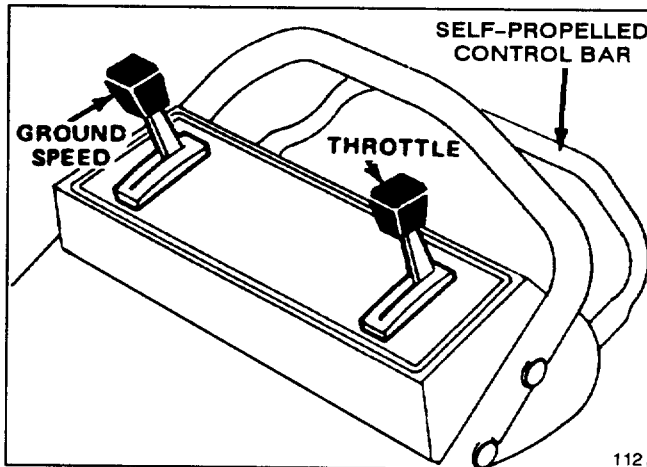
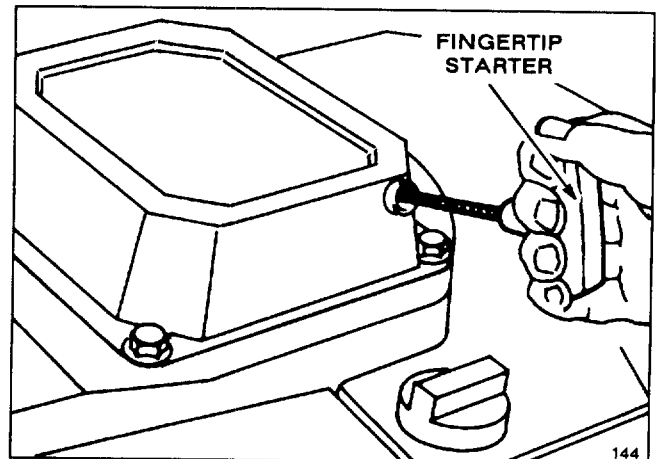

Figure 4
Figure 6
1. CONTROLS—Throttle, ground speed control, and blade/self-propelled control bar are on upper handle (Fig. 4). Fingertip starter is on top of engine (Fig. 6).
3. Move ground speed control to "N" (Fig. 4).
4. Move throttle to CHOKE. Pull engine mounted fingertip starter out until positive engagement results; then pull vigorously to start the engine (Fig. 6). When engine starts, remove throttle from CHOKE and regulate throttle as desired. When temperature is near 40°F, a few extra pulls may be required because the engine needs priming.
6. STOPPING (Fig. 4)—Release control bar to stop blade and traction drive. Move ground speed control to “N”. To stop engine, move throttle to OFF. Pull wire off spark plug if mower will be unattended or not used.